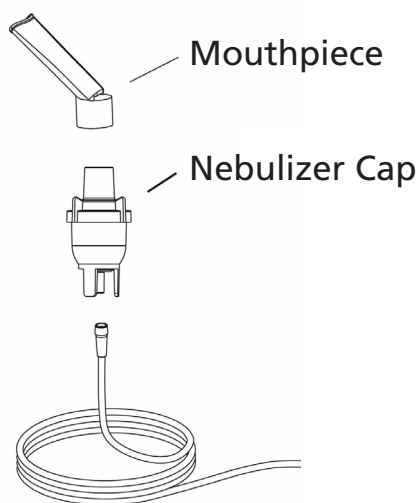

Figure 5
8. If using the mouthpiece, attach it into the nebulizer cap. The cap is designed to fit tightly (Figure 5).